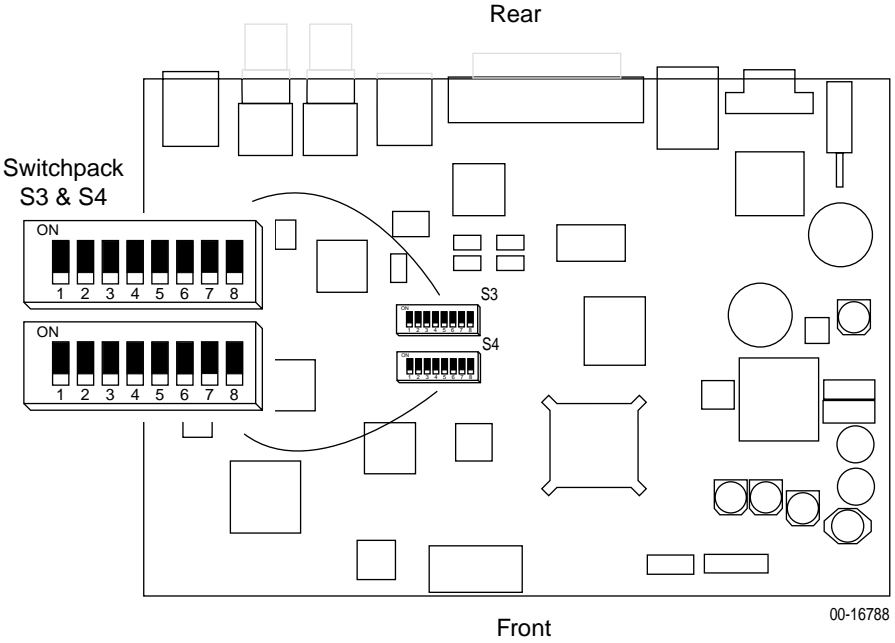

Figure 1. Hotwire 797x Standalone Termination Unit Switchpack Locations
Use internal Switchpacks S3 and S4 to manually configure the unit. Use Figure 1, Hotwire 797x Standalone Termination Unit Switchpack Locations, to locate Switchpacks S3 and S4.
2. Locate Switchpack S4 on the circuit board using Figure 1, Hotwire 797x Standalone Termination Unit Switchpack Locations.
4. After you enable the switchpacks, you must set the switches to your desired configuration. Refer to Figure 1, Hotwire 797x Standalone Termination Unit Switchpack Locations, and Table 12 through Table 22.